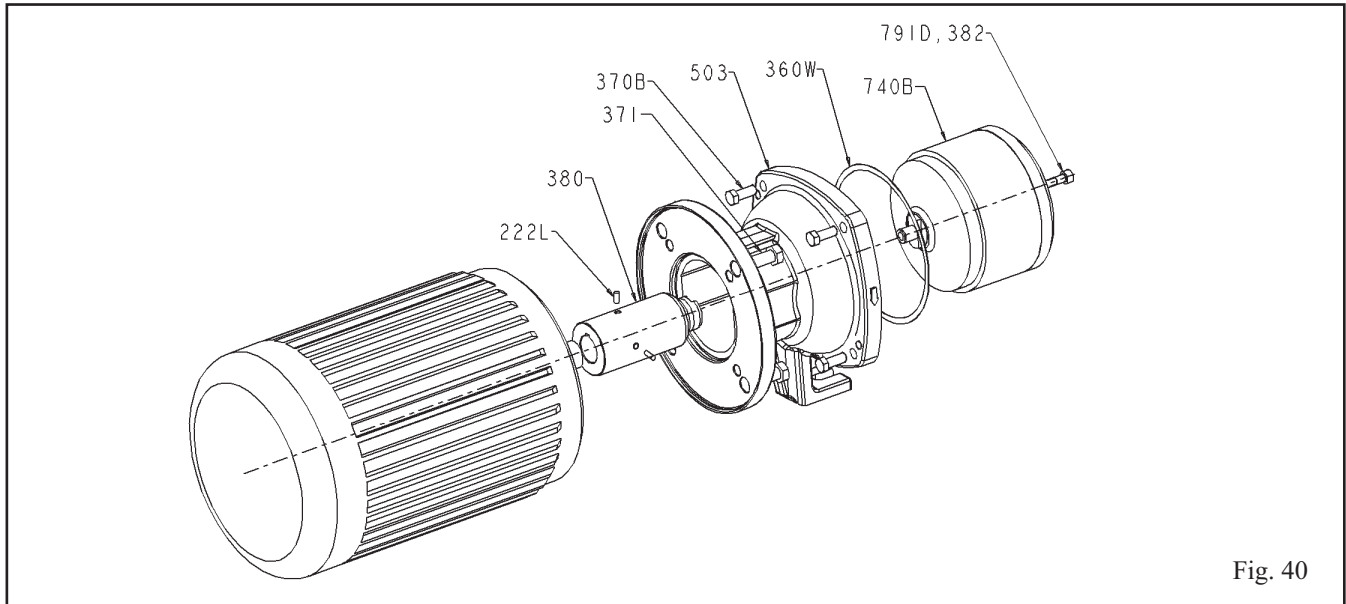

Fig. 40
7. Remove the drive magnet (740B) from the stub shaft (122A) (Fig. 40).
8. Remove the hex screws (371) holding the motor to the motor adapter (503) (Fig. 40).
9. Pull the motor adapter (503) off the motor flange (Fig. 40).
10. Undo the set-screw (222L) that holds the stub shaft onto the motor shaft (Fig. 40).
11. Remove the stub shaft (122A) from the motor (Fig. 40).